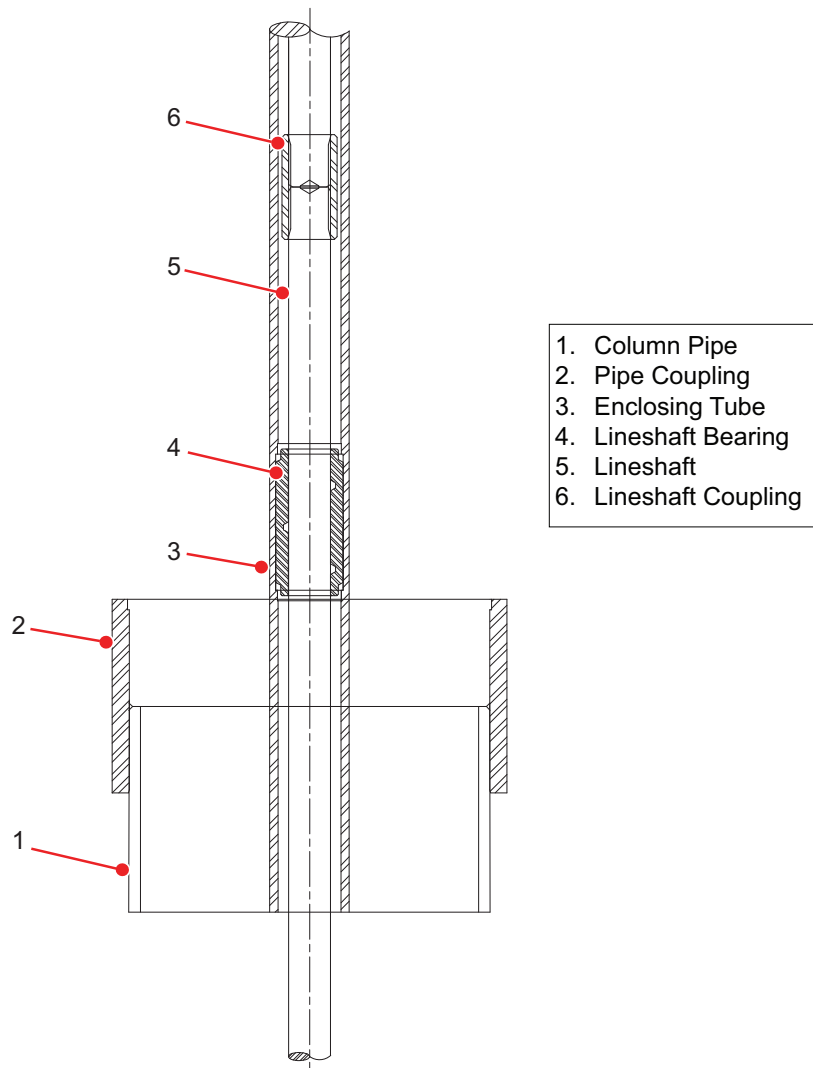

Figure 8-2: Enclosing Tube and Lineshaft
- b. Enclosed Lineshaft Construction: each time a length of column pipe is removed the enclosing tube and lineshaft must also be disassembled. Locate the joint (refer to Figure 8-2) and unscrew (left hand threads) the enclosing tube from the lineshaft bearing (which acts as a bearing for the shaft and also as an enclosing tube coupling). Leave the lineshaft bearing threaded into the enclosing tube not being removed (to support the lineshaft). Slide the enclosing tube up to expose the lineshaft coupling and uncouple as outlined in step 17\(a\) above.